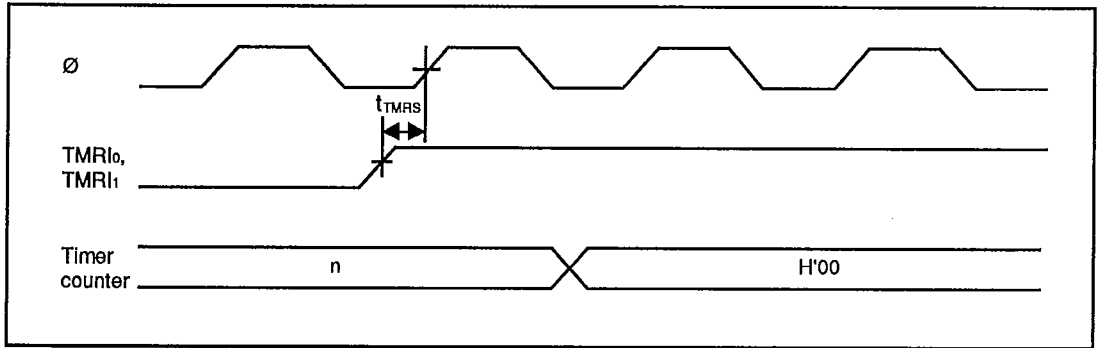

Figure 15-15. 8-Bit Timer Reset Input Timing
- 15.3.6 SCI Timing Figures 15-15 to 15-17